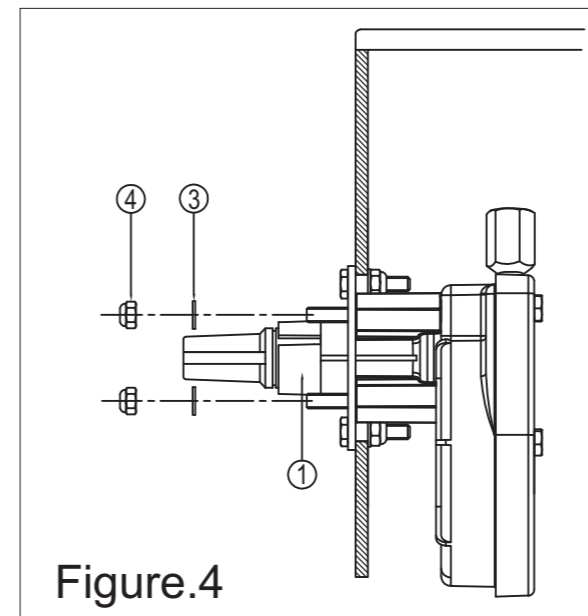

Figure.4
- Install the Helm(Fig.4) on the bracket using the M6 nylock nuts(Sr. No. 4 on part list) provided with the assembly. Use maximum torque of 50 inch/lbs to tighten the nuts.